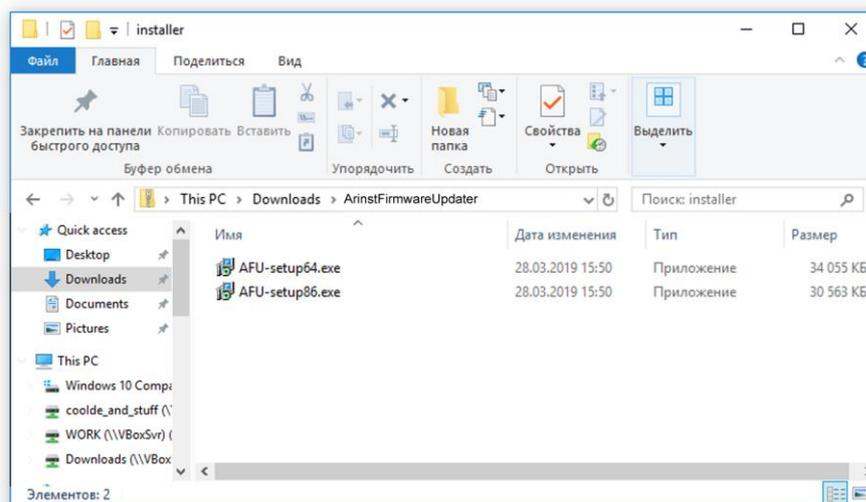

Figure A1.3 - The unzipped downloaded file
*In our example in Figure A1.3, the archive file ArinstFirmwareUpdater is saved to the **Downloads** folder.*
1.3. Enter the directory into which the archive file was uploaded and unzip it with the help of archiver (Figure A1.3).